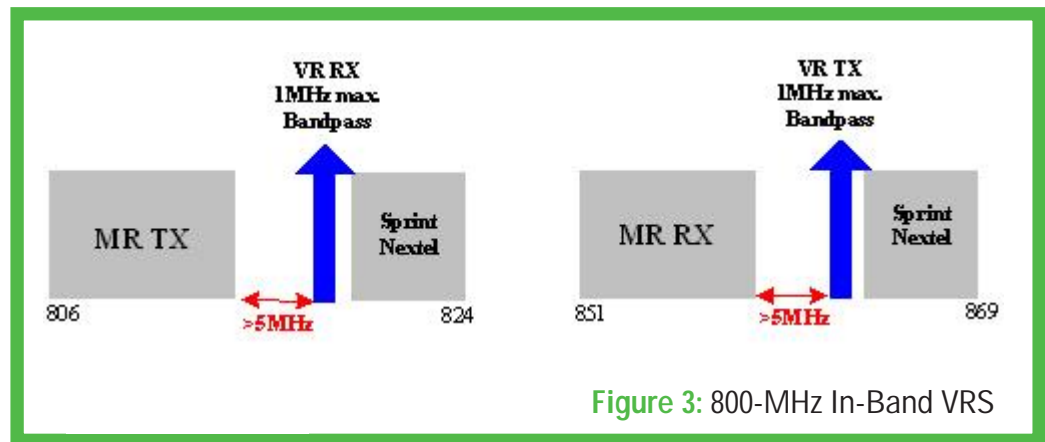

Figure 3: 800-MHz In-Band VRS
- Use an 800-MHz VRS operating at 814–815/859–860MHz, keeping the VRS frequencies 5 MHz away from the trunking system frequencies (see Figure 3, above).
- a. Use an 800-MHz VRS operating at 814–815/859–862 MHz, keeping the VRS frequencies 5 MHz away from the smaller town trunking system frequencies (see Figure 3, p. 74). The VRS will always be disabled when the users select a talk group from the neighboring county systems. The sheriff's office users will never be able